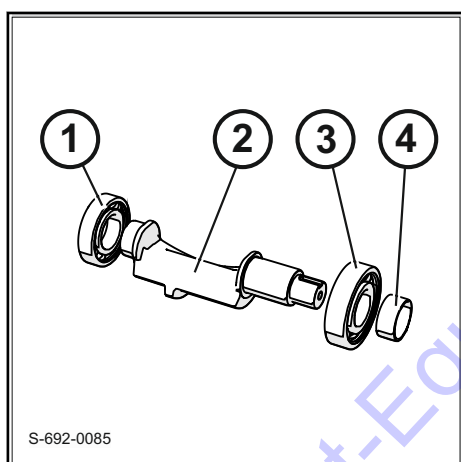

Fig. 82
2. Install the preheated grooved ball bearing (1) ↘ Fig. 82 and the grooved ball bearing (2) on the exciter shaft.
3. Install the inner ring (4) on the exciter shaft.